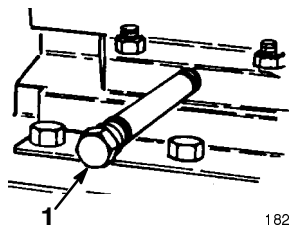

Figure 25
- Clean the area around the oil drain plug (Fig. 25).
- Slide the oil drain pan below the drain extension and remove oil drain plug (Fig. 25).